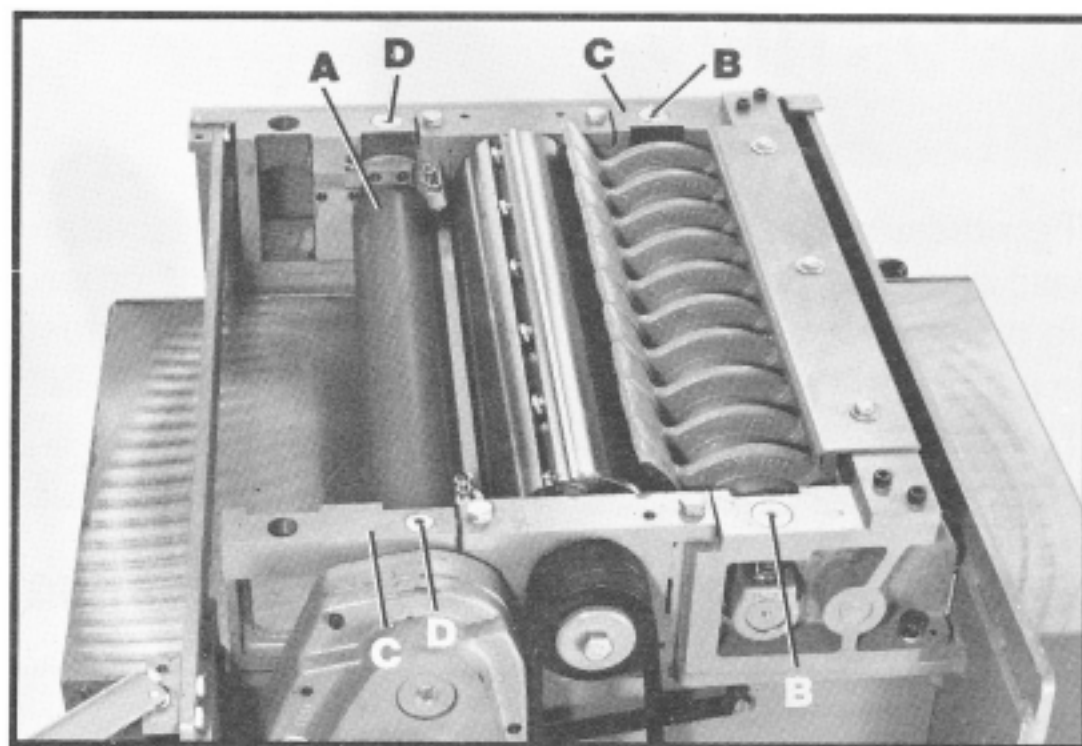

Fig. 22
The outfeed roll (A) Fig. 22, and infeed roll (not visible) are those parts of your planer that feed the stock while it is being planed. The feed rolls are under spring tension and this tension must be sufficient to feed the stock uniformly through the planer without slipping but should not be too tight that it causes damage to the board. The tension should be equal at both ends of each roll.
To adjust spring tension on the infeed roll, turn screws (B) Fig. 22, right or left until they are flush with top of casting (C). To adjust spring tension on the outfeed roll (A), turn screws (D) until they are 2 to 3 complete turns below surface of casting (C).